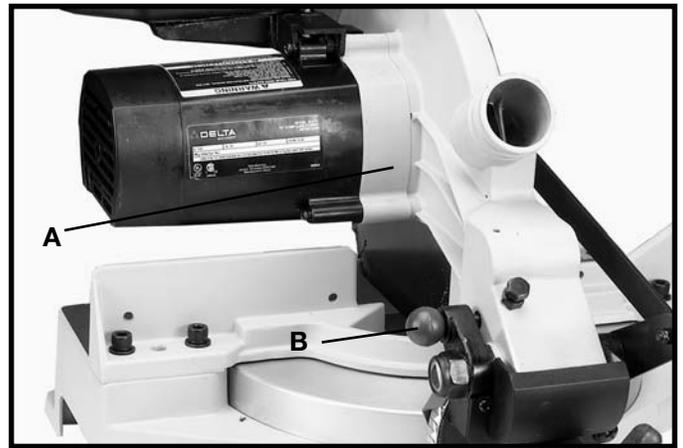

Fig. 29
When transporting the saw, the cuttinghead should always be locked in the down position. This can be accomplished by lowering the cutting arm (A) Fig. 29, and pushing in plunger (B) until other end of plunger (B) engages with hole in cutting arm. **IMPORTANT: NEVER CARRY THE COMPOUND MITER SAW BY THE SWITCH HANDLE. THIS MAY CAUSE MISALIGNMENT. ALWAYS LIFT THE MACHINE BY THE BASE OR THE CARRYING HANDLE.**